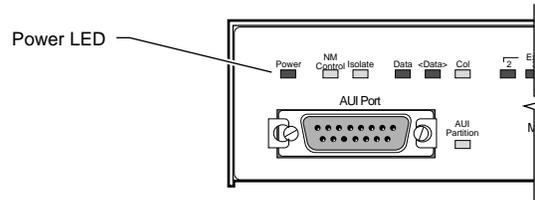

Figure 2-15. Power LED
6. Check the Power LED on the front panel (see Figure 2-15). If it does not light, contact the customer support department of the organization from which you purchased your Model 28xx.